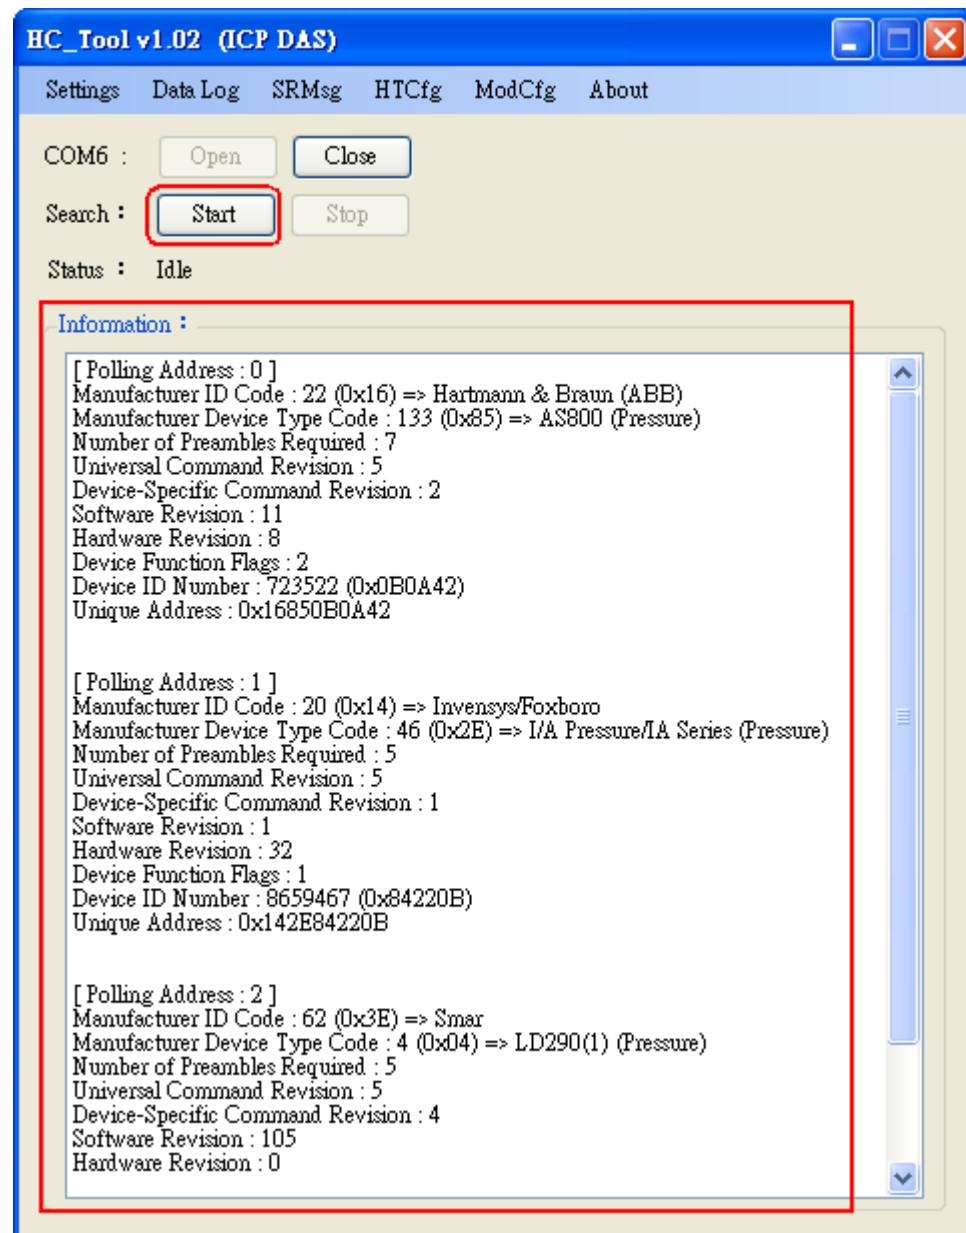

Figure 4-8: HART device Information
(2) Click “Start” button to search all HART devices and the result will be shown in the “Information” field like Figure 4-8.